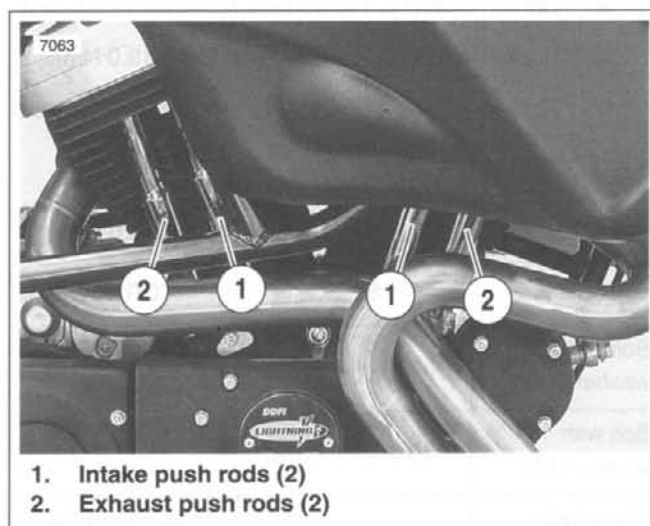

Figure 3-28. Push Rod Locations (Shown on Assembled Engine)
13. See Figure 3-28. Identify push rod color coding, length and respective push rod positions in engine. See Table 3-5. Place intake and exhaust push rods onto seat at top of tappet.